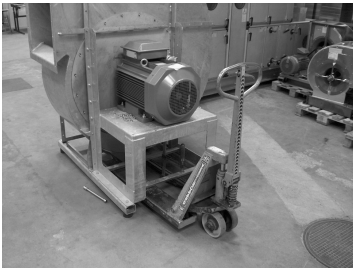
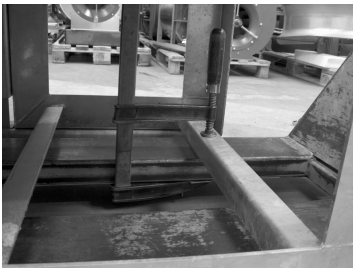

Fig. 8
Fig. 9
2. Place a pallet truck or similar support under the motor bracket. See fig. 8. Attach a bench screw to the front support to prevent the motor bracket and rotor from falling backwards when they are retracted from the fan housing. See fig. 9. Support the rear, if necessary, to keep the motor bracket horizontal.